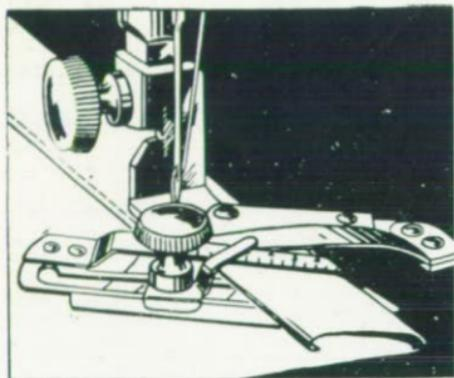

Fig. 45. Showing How Adjustable Hemmer is Used for Making Hems Up to $\frac{15}{18}$ Inch Wide.
2. Place the cloth in the hemmer and draw it back and forth until the hem is formed, as shown in Fig. 45.